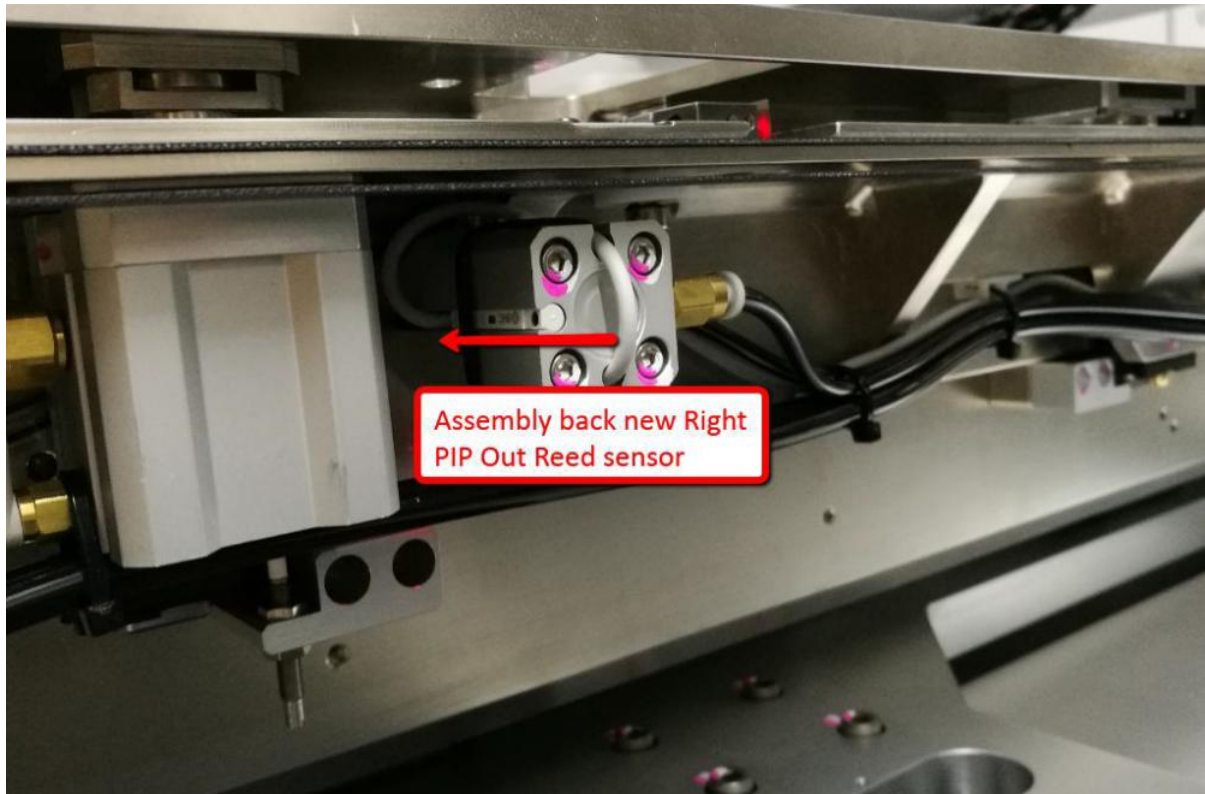

Figure 41 Right PIP Out Reed Sensor Assembly
1. Assemble Right PIP Out Reed sensor to Right PIP Cylinder as shown in Figure 41 below. Hand Tight Reed Sensor Screw Only